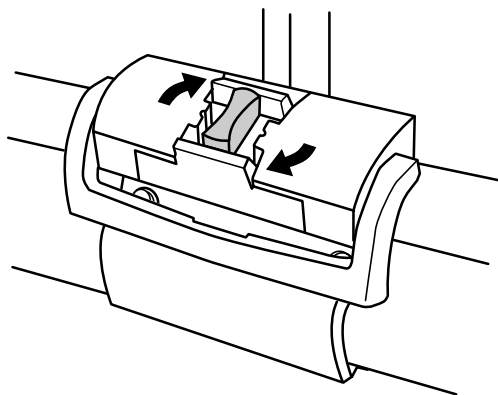

Figure 8
3. Rote the green knob 90 degrees to lock the release latch (Figure 8).